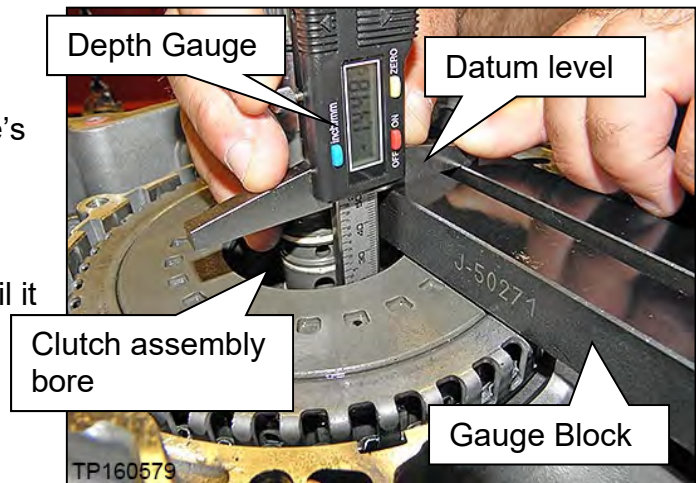

Figure 125
- c. Position the Depth Gauge on the Gauge Block (Figure 125).